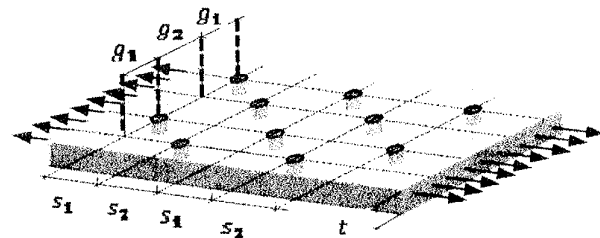

Figure 2
- Figure 2 shows a 250 mm wide steel plate ($p_y = 275 \text{ N/mm}^2$) subjected to tension and it is connected to another steel plate using 16 mm diameter bolts. The steel plate thickness (t) is 16 mm and consider $s_1 = 45 \text{ mm}$, $s_2 = 65 \text{ mm}$, $g_1 = 45 \text{ mm}$, $g_2 = 60 \text{ mm}$.